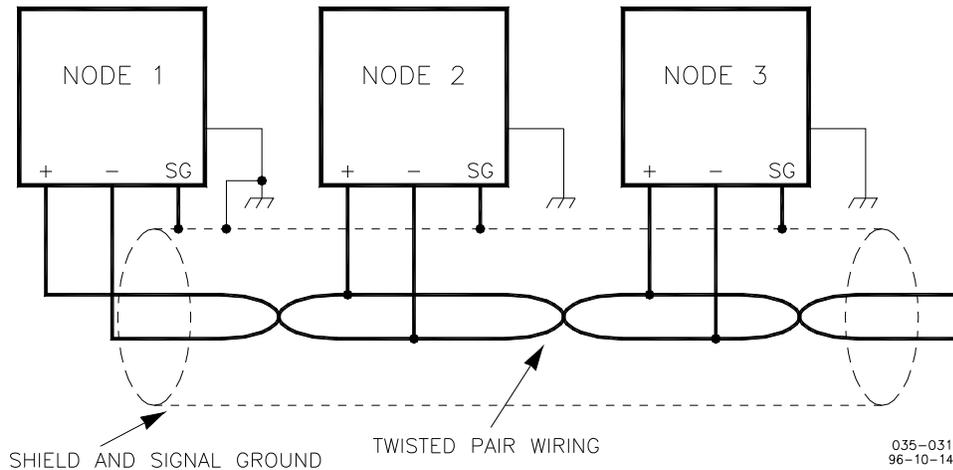

Figure 2-10. Alternate Multipoint Wiring Using Shielded Twisted-pair Cable without a Separate Signal Ground Wire
**IMPORTANT** Non-isolated nodes may not have a signal ground available. If signal ground is not available, use the alternate wiring scheme in Figure 2-10 with the signal ground connection removed on those nodes only.